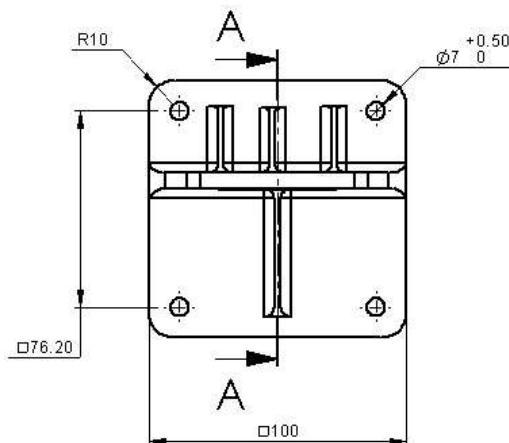

Figure 1: Tilt Mount Base - Rear View
- a) Place the tilt mount (Fig. 1) in its designated location and secure it with four screws through four 0.28" (7mm) diameter holes. There are four captive screws with spring washers in the tilt mount. The following drawing shows the location of the four holes for the screws and washers.